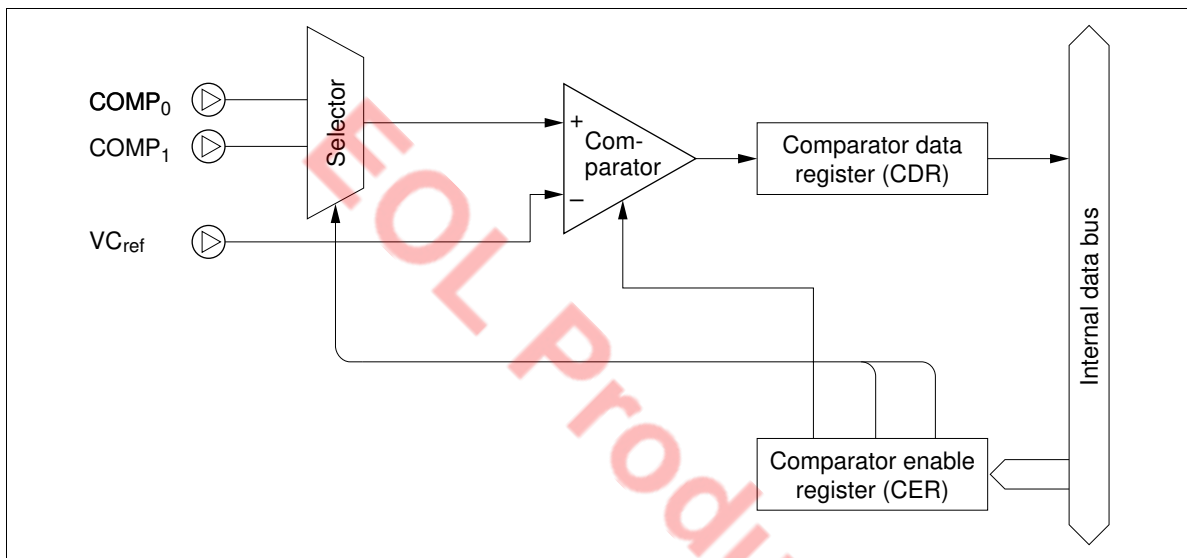

**Figure 59 Miscellaneous Register (MIS)**
**Miscellaneous Register (MIS: \$00C):** This register has the following functions (figure 59).